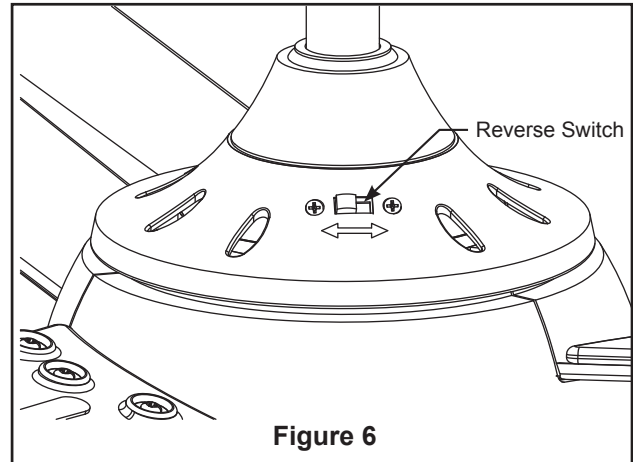

Figure 6
- 6.** Secure the glass to the LED assembly by twisting in a clockwise direction. Twist the glass gradually **until it snaps onto the LED assembly.** Do not over-tighten. (Figure 6)
6. If airflow is desired in the opposite direction, turn the fan off and wait for the blades to stop turning. Slide the reverse switch on top of motor assembly to the opposite position and turn fan on again. (Figure 6)